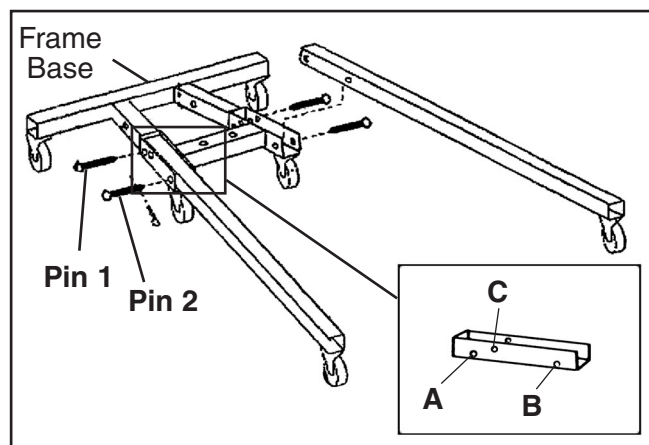

Figure 4. Base assembly.
1. Insert the two legs into the frame base **(Figure 4)**, and secure them in place with the four eye pins and cotter pins.
Note: Each leg has two pins and three pin holes in the frame base **(Figure 4)**. **Pin 1** is the pivot pin and remains in hole **A**. **Pin 2** is the removable lock pin—when inserted in hole **B**, the leg is locked in the down position. When the **Pin 2** is inserted in hole **C**, the leg is locked in the raised position.